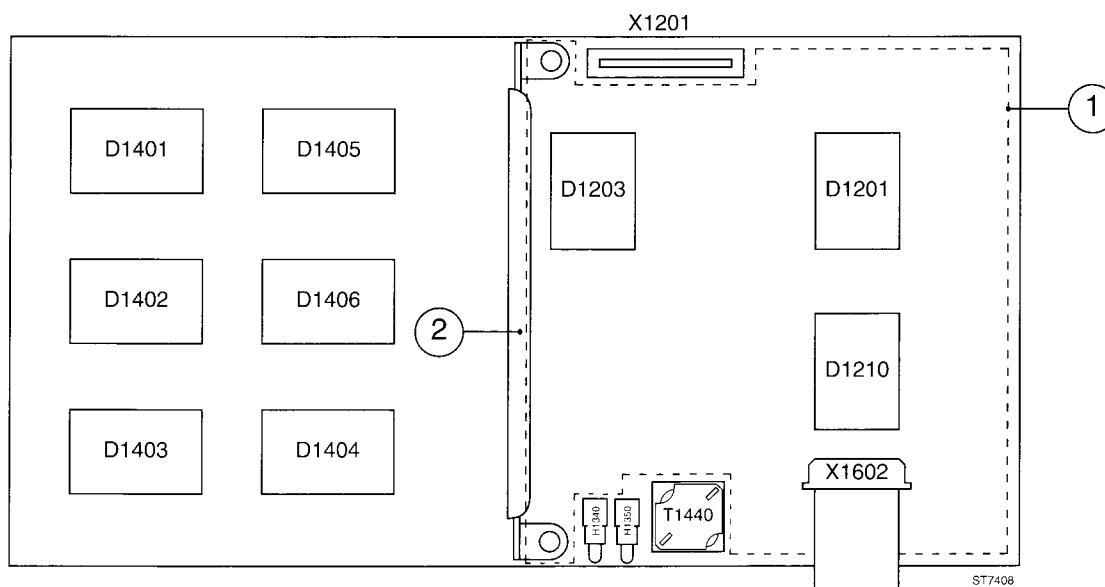

Figure 9a.1 New A1 PCB with Keypad foil (1) and contact bracket (2)
2. Order and install the CONTACT BRACKET (fig. 9a.1). The bracket connects the A1 PCB ground to the A2 PCB top screen, to meet the EMI (Electro Magnetic Interference) requirements.